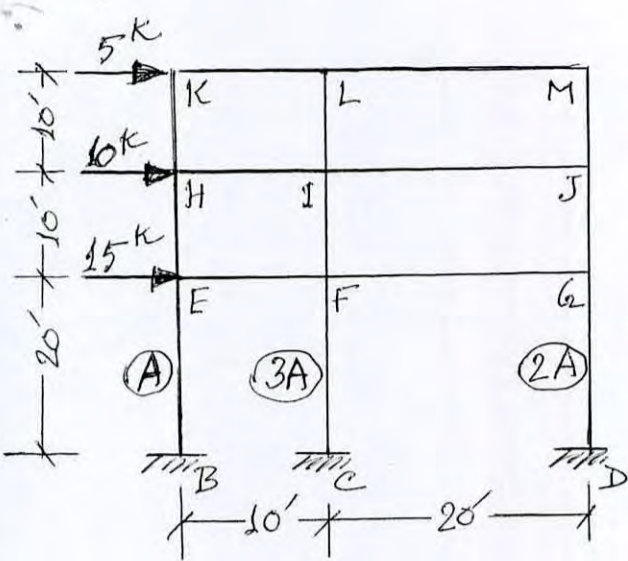

Fig. 7
9. Using cantilever method draw shear force and bending moment diagrams for the girder EFG of the building frame shown in Fig. 7. Also draw axial force diagrams for the columns. Cross sectional areas of the columns are shown alongside them in the figure. Draw moment diagrams on compression side. **(28)**